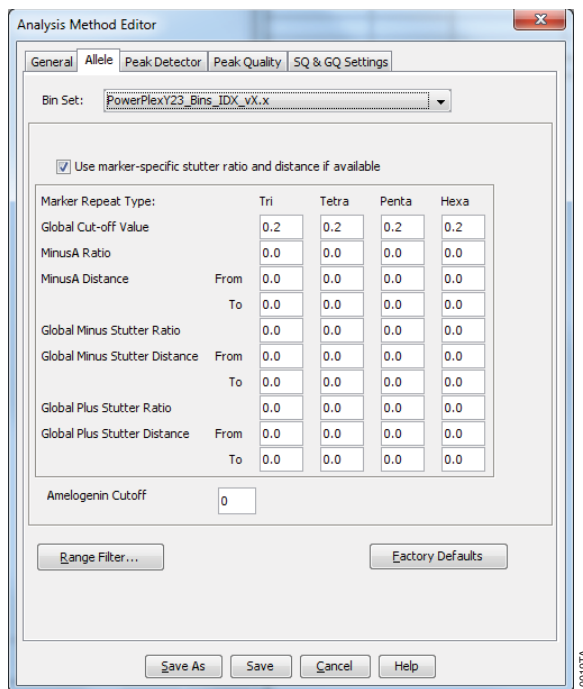

Figure 16. The GeneMapper® ID-X Software, Version 1.2, Allele tab with settings for using a 20% peak filter.
6. Select the Allele tab (Figure 16).
8. Ensure that the “Use marker-specific stutter ratio and distance if available” box is checked. Doing this will assign locus-specific stutter filters and distances from the imported stutter file. Ensure that the appropriate global filter is applied to this analysis method. For example, for a 20% filter enter “0.20” for the Global Cut-off Value for Tri, Tetra and Penta repeats (Figure 16).